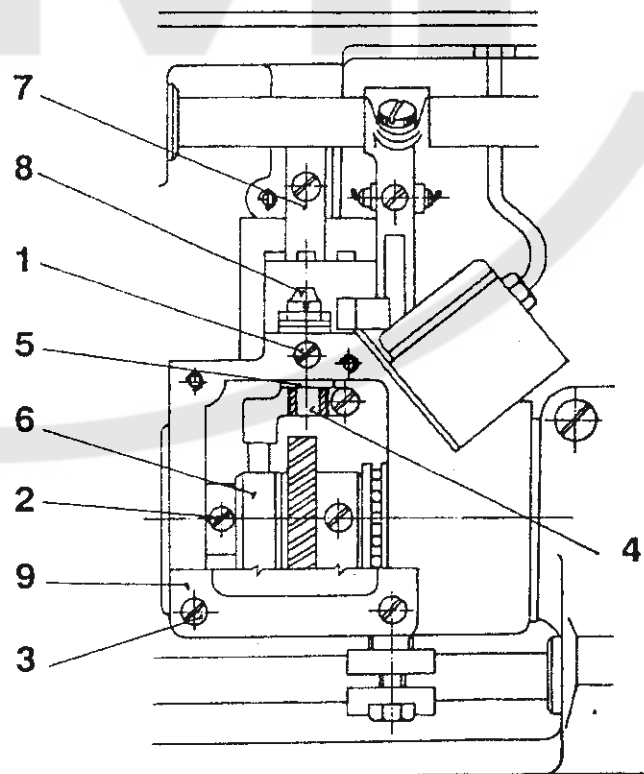

Figure 9
13. To adjust the hook opening (Fig. 9)